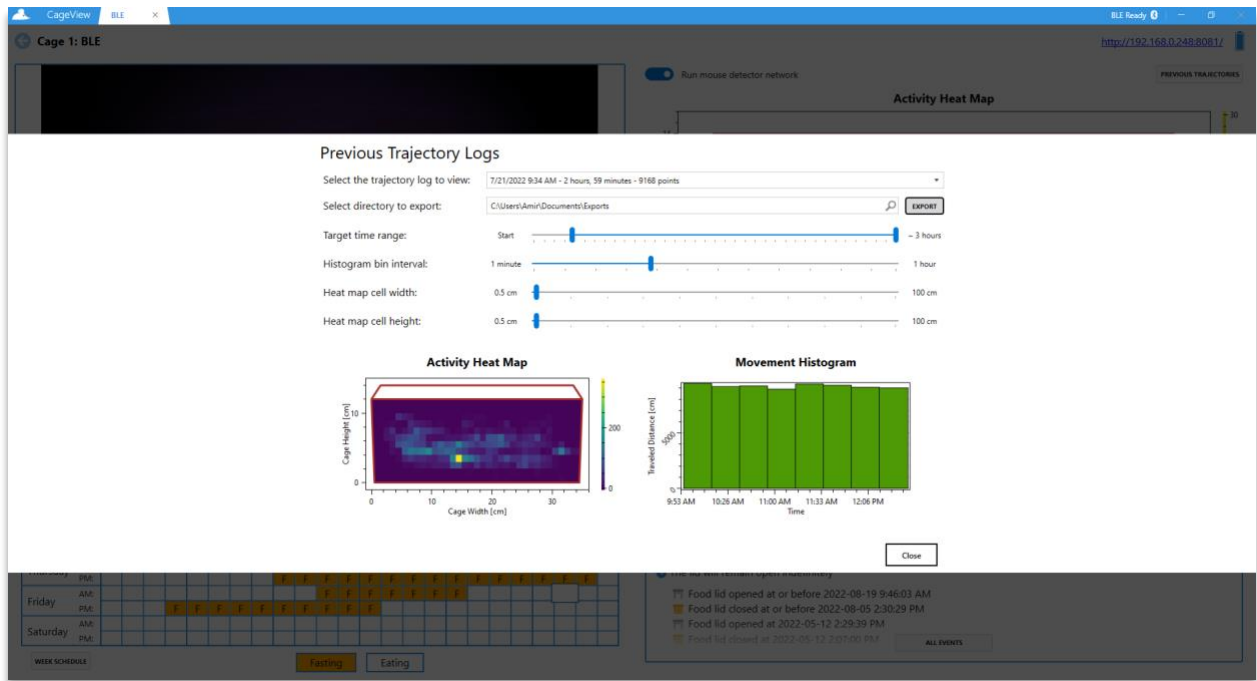

Figure 39. Folder chosen for the trajectory log ready to export
7.5.3. After selecting the folder, click the "export" button (**Figure 39**). The exported data can be accessed in the previously chosen folder.